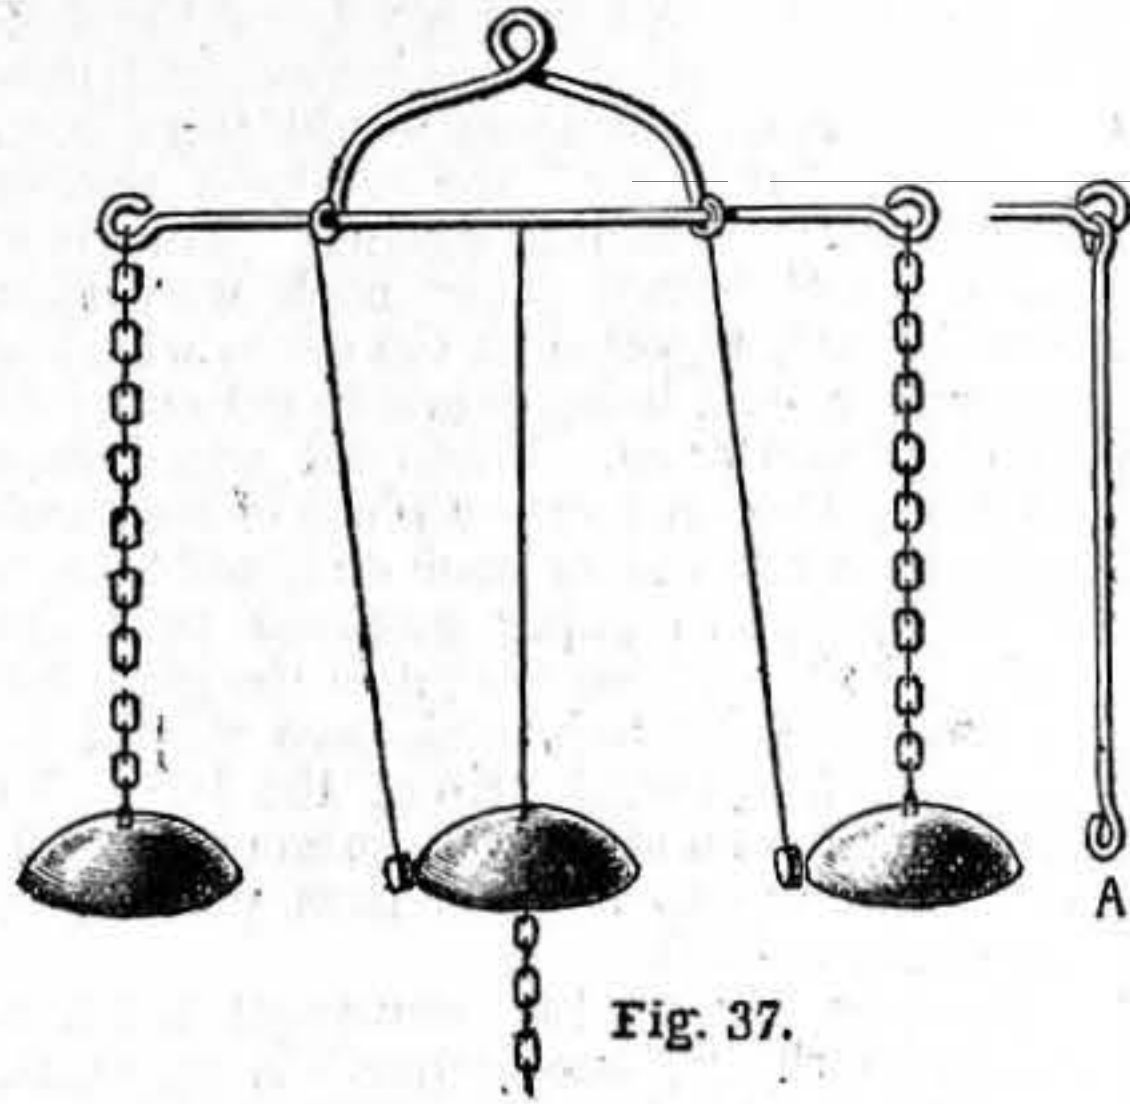
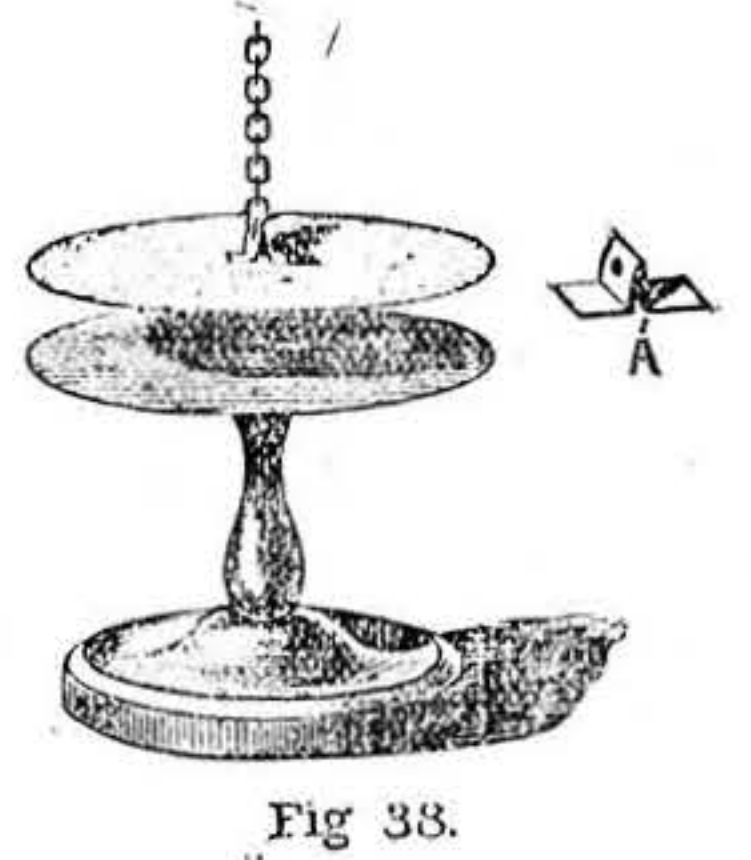

Fig. 37.
Fig. 38.
*The Electrical Chimes* (shown in Fig. 37) will be found a much more convenient method than the foregoing for illustrating the phenomena of attraction and repulsion as applied to bells. A 6 in. length of brass rod is first bent into the form of a hook at either end, in order to form the cross-bar from which to suspend the bells, and another piece of slightly thinner wire is then twisted
in a loop in the middle, and bent in the form of a hook at either end, of sufficient size to grip the central bar just prepared, after which the two are joined together by means of a touch of soft solder. Now cut off a couple of 7 in. lengths of moderately stout brass wire (or brass chain), and having first turned up one end of each in the form of a small ring, slip one of the bells previously mentioned on to the wire, so that it may rest on this ring, and then turn up a similar loop at the other end of the wire, but do not close this until the bells have been slipped on to the end of the cross-bar. The bells are shown suspended by chains in Fig. 37, and A represents the alternative plan above described. For the clappers, a small block of brass about ¾ in. long is filed up to a neat form, and then threaded on a piece of silk, which is put through a hole drilled in the metal. Thus prepared, a third bell is suspended from the centre of the cross-beam by means of a piece of silk thread tied to the latter, and from the underneath of this bell, a suitable length of brass chain should be hung, in order to make provision for the escape of the electricity into the earth. Lastly, the two clappers are hung from the cross-beam, one on either side of the central bell, and midway between the others, care being taken to see that the bells and clappers are all on the same level. The bells are now hung from the prime conductor, with the piece of chain from the centre bell in communication with the earth. On the machine being put in motion the outer bells will become charged with electricity, which will attract the two clappers, and cause them to fly backwards and forwards from the centre to the outer bells during the time that the machine is worked. Any dealer in watch and clock makers' materials will be able to supply small alarm clock bells, similar to those shown in the illustration, for a few pence.
*The Image Plate*, for dancing figures, represented in Fig. 38, is a very amusing piece of apparatus for exhibiting the effects of attraction and repulsion by means of a couple of small pith figures. The usual description of image plate takes the form of a pair of thin discs of tin or brass plate. The top one is suspended from the prime conductor by means of a short length of chain attached to a hook or collar soldered to the plate, and the lower disc, which is called the table, is supported on an ornamental turned wooden pillar, provided with a circular base. The figures employed for the purpose are carefully cut from elder pith by means of a keen knife or razor, being afterwards painted in as life-like a manner as possible.
Fig. 34.—Leyden Jar with Bells. Fig. 35.—Moulded Supporting Foot. Fig. 36.—Plan of Base. Fig. 37.—Electrical Chimes—A, Alternative Support for Bells. Fig. 38.—Image Plate. Fig. 39.—Stand for Dancing Figures. Fig. 40.—Insulating Stool. Fig. 41.—Electrified Head of Hair. Fig. 42.—Butterfly Net. Fig. 43.—Whirl. Fig. 44.—Plan of Whirl. Fig. 45.—Electrical Inclined Plane. Fig. 46.—Egg Stand. Figs. 47 and 48.—Enlarged Details of Conducting Wires. Fig. 49.—Plan of Wooden Disc. Fig. 50.—Apparatus for firing Ether. Fig. 51.—Cap for Saucer. Fig. 52.—Cap for Bent Arm. Figs. 53 and 54.—Exterior and Interior of Fire House. Fig. 55.—Thunder House.